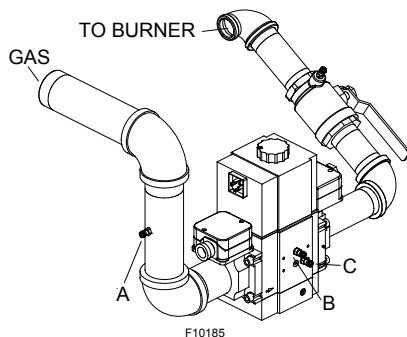

Figure 52. Gas Pressure Measurement Locations
2. Attach 12" scale manometer to an upstream bleedle valve on the gas supply pipe to the heater (Measure point "A" in **Figure 52**).
3. Attach 24" scale manometer to the manifold pressure tap located on the shutoff valve downstream of the firing valve (Measure point "D" in **Figure 52**).